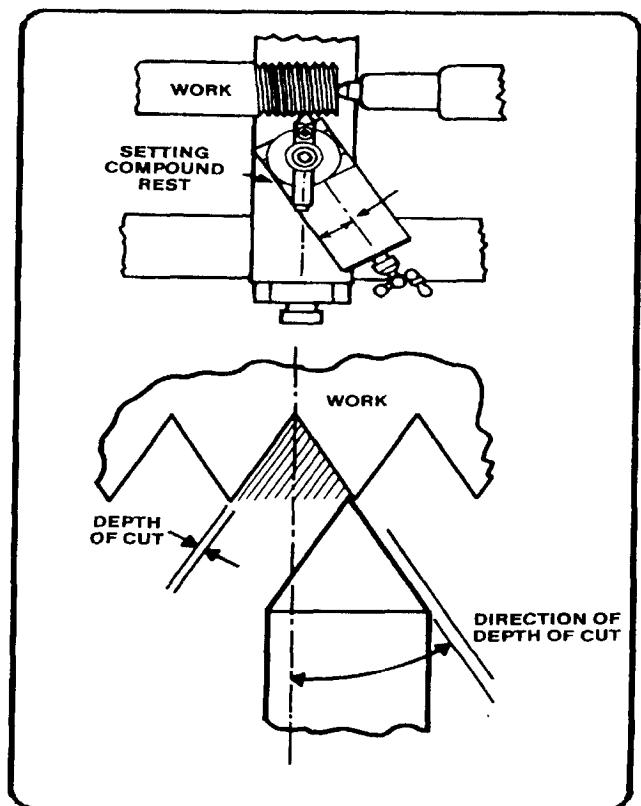

Figure 7-81. External threading setup.
**Direction of feed.** For cutting standard  $60^\circ$  right-hand threads of the sharp V-type, such as the metric form, the American (National) form, and the Unified form, the tool bit should be moved in at an angle of  $29^\circ$  to the right (Figure 7-81). (Set the angle at  $29^\circ$  to the left for left-hand threads). Cutting threads with the compound rest at this angle allows for the left side of the tool bit to do most of the cutting, thus relieving some strain and producing a free curling chip. The direction is controlled by setting the compound rest at the  $29^\circ$  angle before adjusting the cutter bit perpendicular to the workpiece axis. The depth of cut is then controlled by the compound rest feed handle.